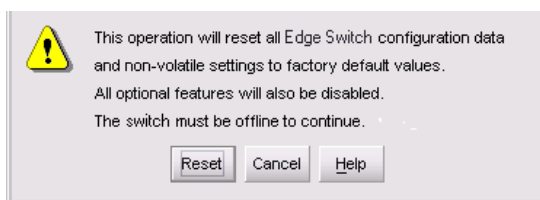

Figure 52: Reset Configuration dialog box
5. Select the **Reset Configuration** option from the Maintenance menu. The Reset Configuration dialog box displays (Figure 52).